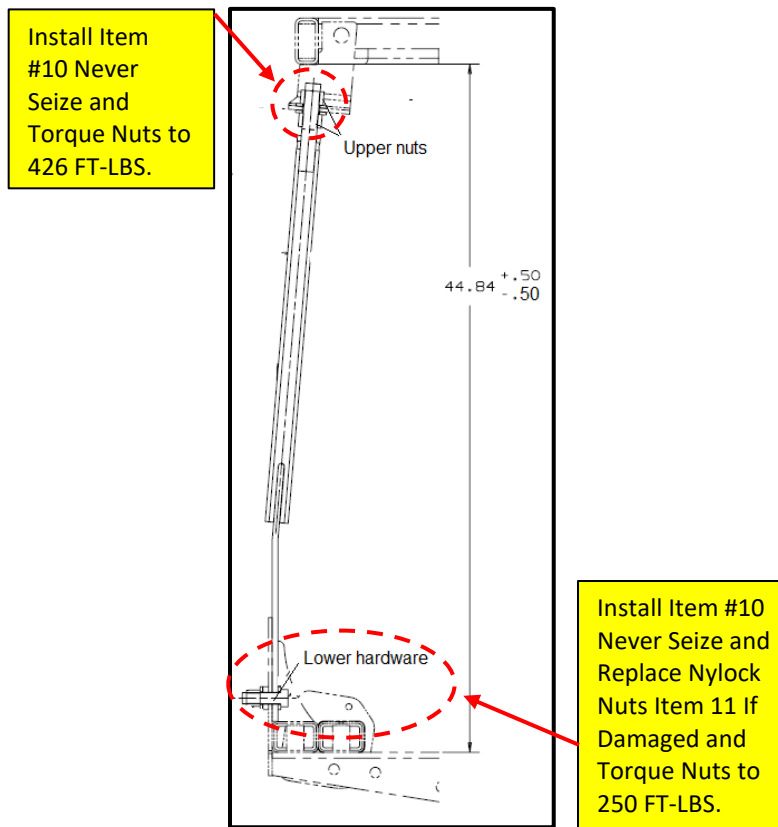

Figure 33: Strut Tensioning Location Reference.
95. Support strut Installation – See Figure 33.